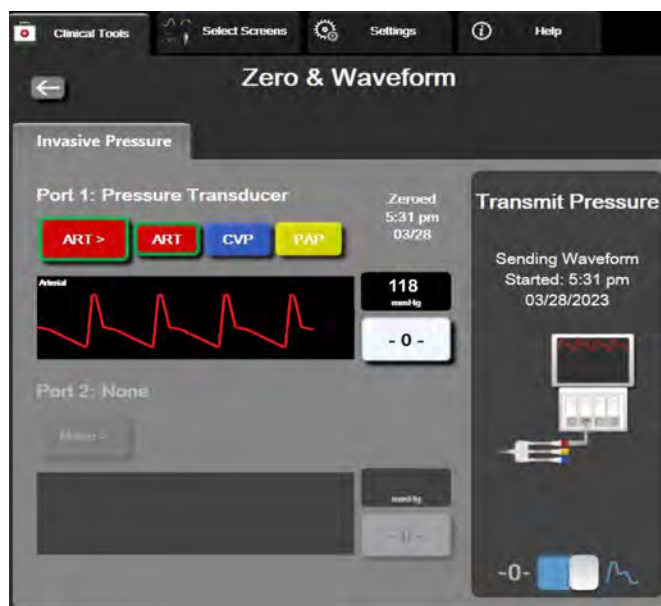

Figure 10-2 Zero & Waveform screen – Zero sensor and Pressure-Out
- 5 Toggle to the **Transmit Waveform** icon  to begin pressure signal output to the patient monitor. A “**Sending Waveform**” message will be displayed when the live waveform is being transmitted to the connected patient monitor. See figure 10-2 on page 189.